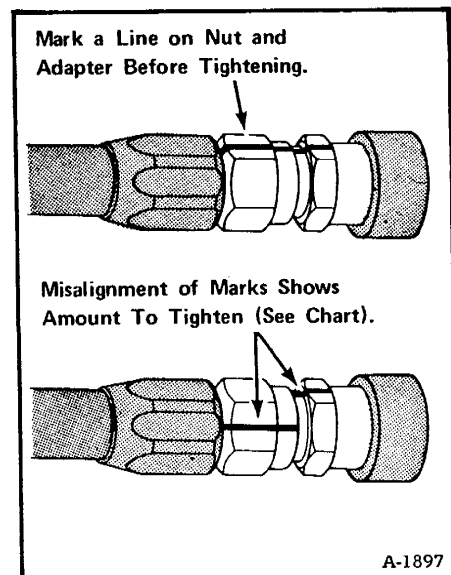

Fig. 2-3 Tightening Flared Fittings
- (1) Tighten the nut until it makes contact with the seat.
- (2) Make a line from the nut to the adapter (Fig. 2-3).
- (3) See the chart to find correct tightening for fitting.